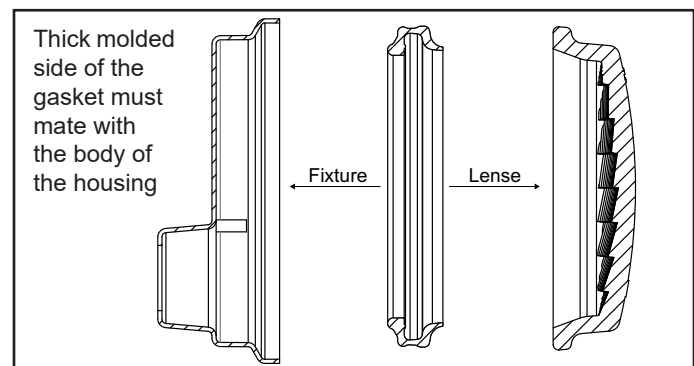

Figure 9. Cross Section of Jandy WaterColors LED Light
2. While holding the fixture upright, place the glass lens with the gasket on top of the fixture. Please note that the lens gasket is not symmetrical. Therefore, it must be installed correctly so that the lens can seal to the fixture housing. Place the gasket on the lens with the orientation shown in Figure 9. On the small light, replace the diverger by tucking the tabs between the lens and gasket.